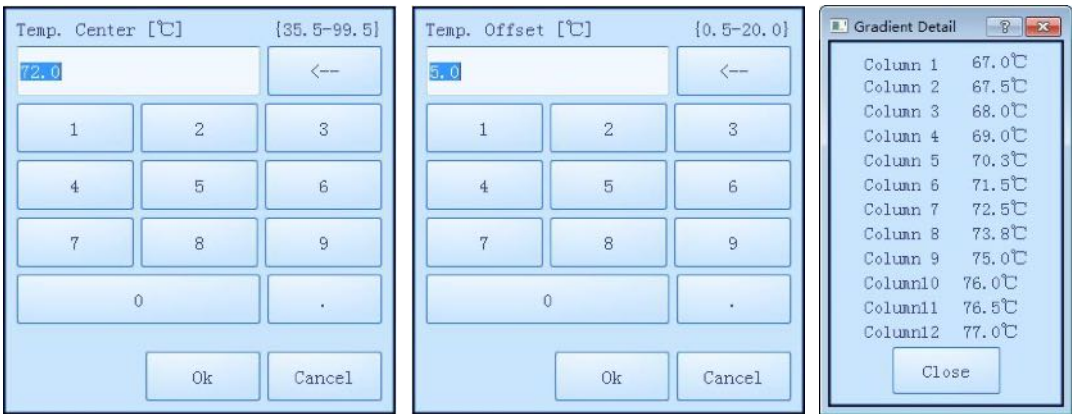

Figure E-3.7a Step Edit window - Gradient step parameter setting
- ▶ Users can press the input boxes of **Temp. Center** and **Temp. Offset** to edit the corresponding parameters for the current gradient step. Users could also and press **< Details >** to view the specific gradient temperatures of each column, as shown in figure E-3.7a.